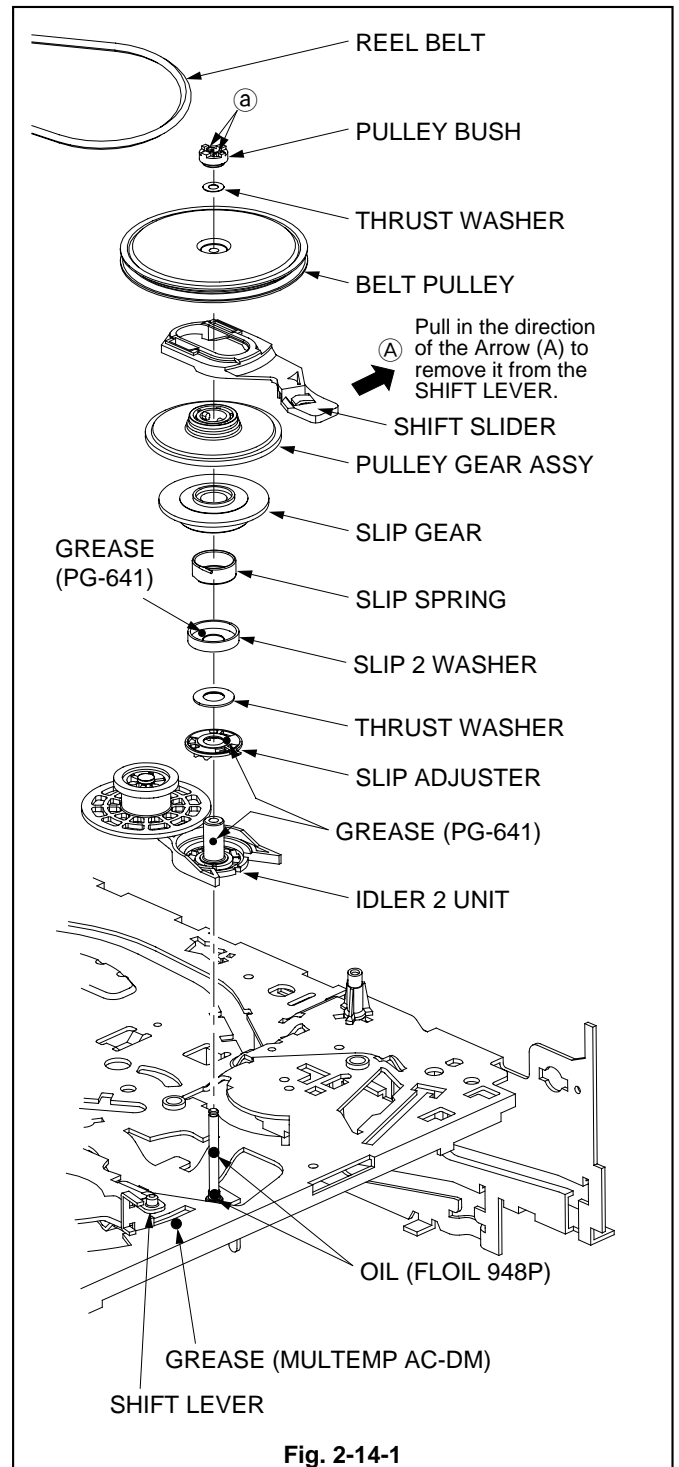

Fig. 2-14-1
1. Remove the REEL BELT shown in the Fig. 2-14-1.
2. Move the SHIFT SLIDER in the Fig. 2-14-1 in the direction shown of the arrow (A) to remove the SHIFT SLIDER from the SHIFT LEVER.
3. Release the two catches (a) of the PULLEY BUSH shown in the Fig. 2-14-1 to remove the PULLEY BUSH.
4. Remove the units from the THRUST WASHER to IDLER 2 UNIT shown in the Fig. 2-14-1.
1. Apply OIL (FLOIL 948P) [859D154O20] to the SHAFT for the IDLER 2 UNIT shown in the Fig. 2-14-1.
2. Apply GREASE (PG-641) [859D055O30] to the parts on the IDLER 2 UNIT specified in the Fig. 2-14-1.
3. Apply GREASE (MULTEMP AC-DM) [859D055O90] to the parts on the MAIN PLATE ASSY specified in the Fig. 2-14-1.
7. Install the IDLER 2 UNIT shown in the Fig. 2-14-1.
9. Install the units from the SLIP 2 WASHER to REEL BELT shown in the Fig. 2-14-1.
10. Install the SHIFT SLIDER to the SHIFT LEVER shown in the Fig. 2-14-1.